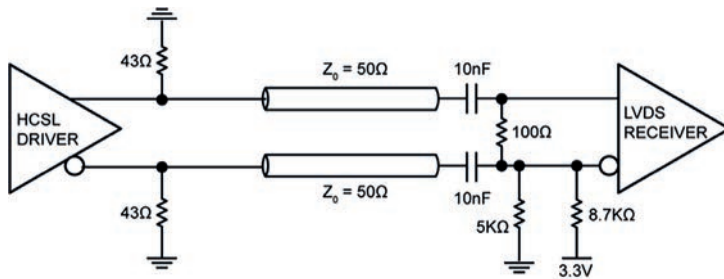

Figure 8: HCSL-to-LVDS translation
In Figure 8, each HCSL output pins switches between 0 and 14mA. When one output pin is low (0), the other is high (driving 14mA). Equivalent loading for the HCSL driver is 48Ω parallel to 50Ω, which equates to 23.11Ω. Swing level at the LVDS input is $14\text{mA} \times 23.11\Omega = 323\text{mV}$.